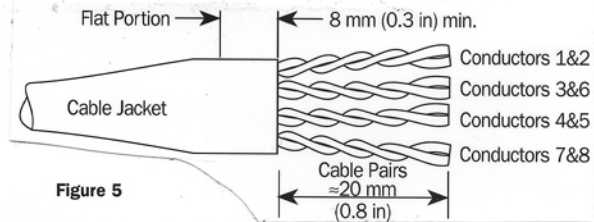

Figure 5 Jacket and aligned cable pairs prior to untwisting
2. Position the cable pairs so that they are sequenced 1&2, 3&6, 4&5, 7&8 respectively (Figure 5). To prevent physical interference between pairs under the jacket when the plug is crimped, the side-by-side orientation of the cable pairs must extend into the jacket a distance of at least 8 mm (0.3 in), creating a flat portion. The flat, jacketed portion of the patch cable will appear to be oblong in cross-section. Care is required to assure that the paired conductors are not untwisted inside of the jacket.
Plug Pin numbers = Conductor Number (Reference Fig. 5&6).